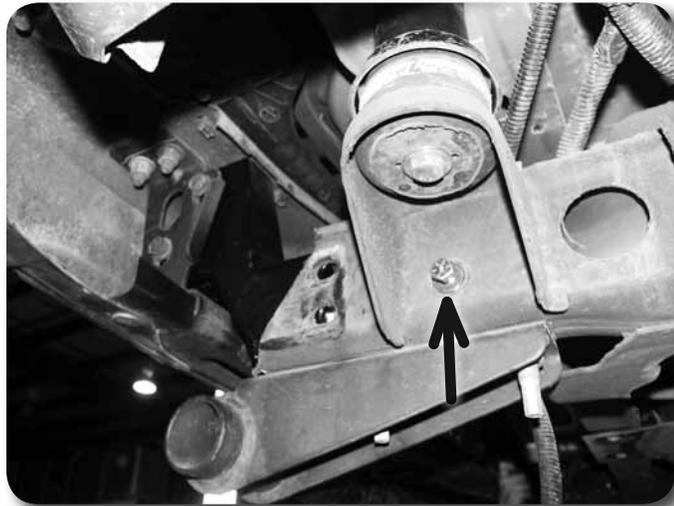

Figure 40
92. Install the bumper with the new brackets on the vehicle. Align the forward-most hole in the frame with the 3/8" welded nut on the brackets **Figure 40**. Loosely install a 3/8" x 1-1/4" nut and 5/16" USS washer. Use Loctite on the bolt threads.